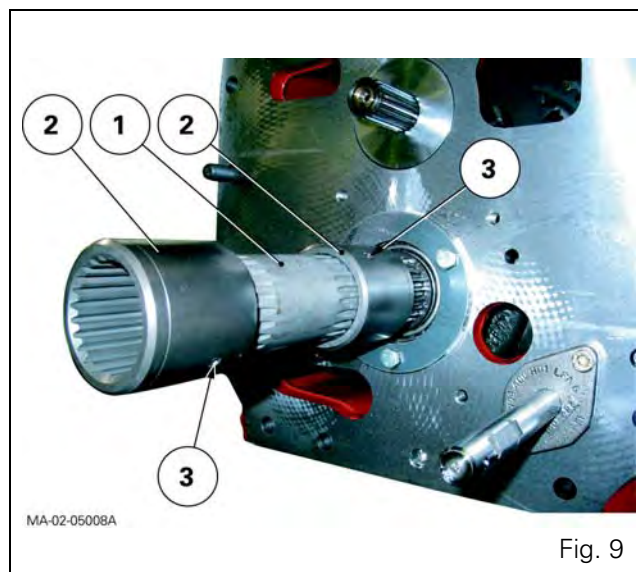

Fig. 9
- **Gearbox without creeper or super creeper unit (Fig. 9)**